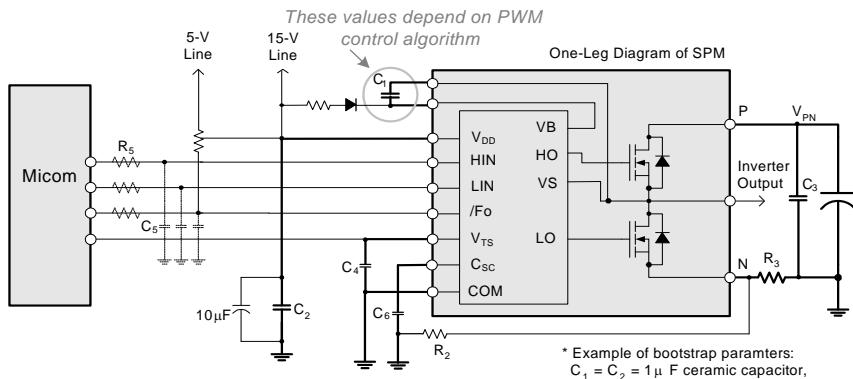

Figure 2. Recommended MCU Interface and Bootstrap Circuit with Parameters
4. Source terminal of each low-side MOSFET is not connected to supply ground or bias voltage ground inside Motion SPM® 7 product. External connections should be made as indicated in Figure 2.